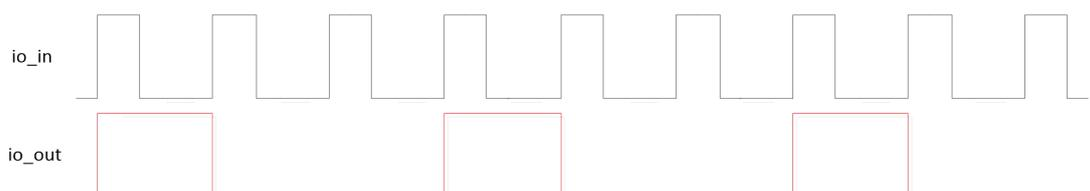
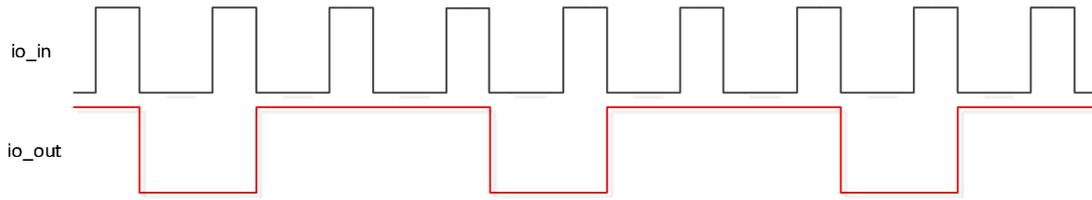

Figure 22 Rising edge alignment
Figure 23 Falling edge alignment
- When io_in is uniformly period-distributed, io_out is a non-equal-duty waveform after odd frequency division, as shown in Fig. 22, Fig. 23.